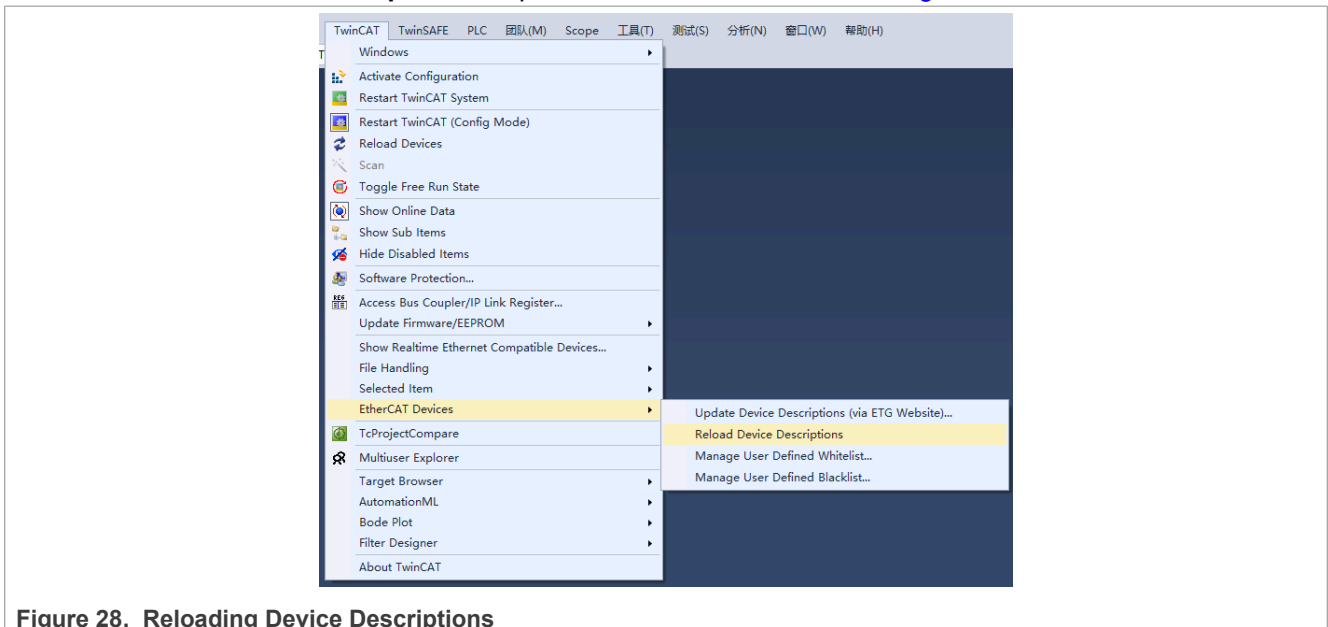

Figure 28. Reloading Device Descriptions
- Click **Reload Device Descriptions** to update the XML file, as shown in Figure 28.